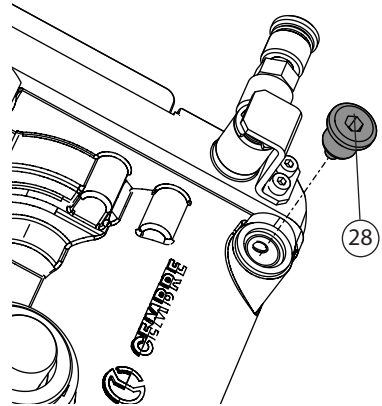

FIG. 18
13.1.2) Removal of metal residues from the crankcase (Rif. a Fig. 18)